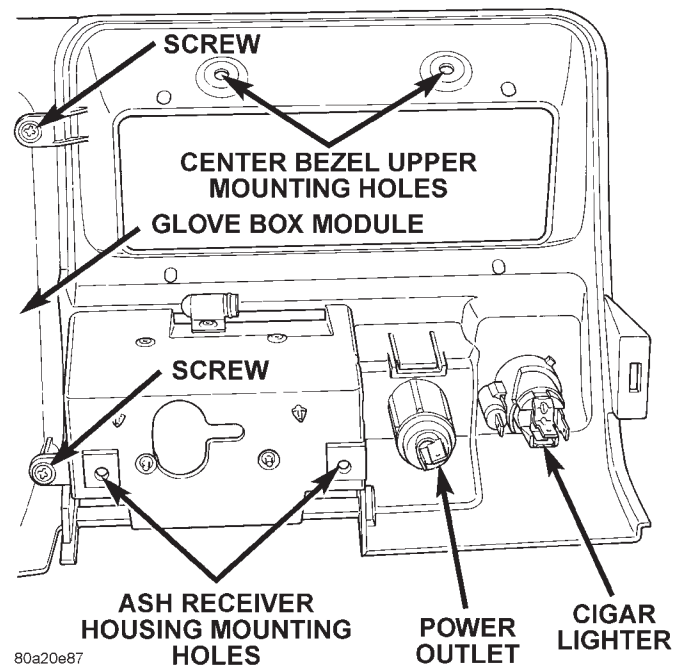

Fig. 16 Instrument Panel Center Bezel Remove/Install
- (1) Remove the glove box module as described in this group.
- (2) Remove the two screws that secure the instrument panel center bezel to the inboard end of the glove box module from the back side of the glove box module (Fig. 16).